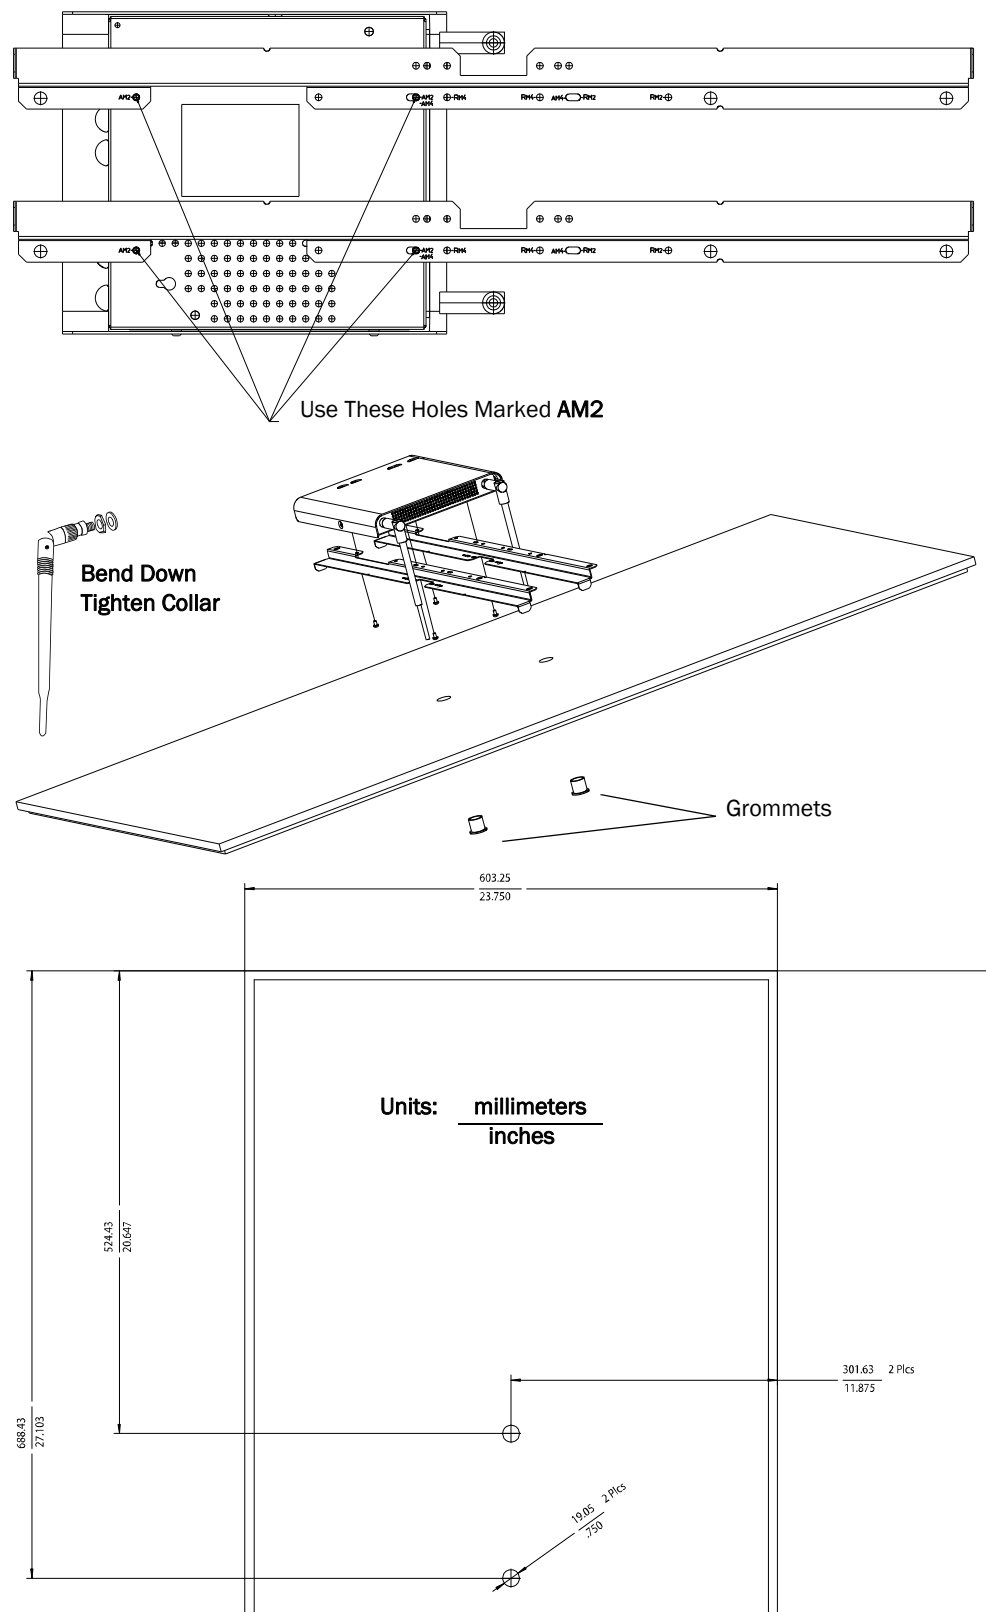
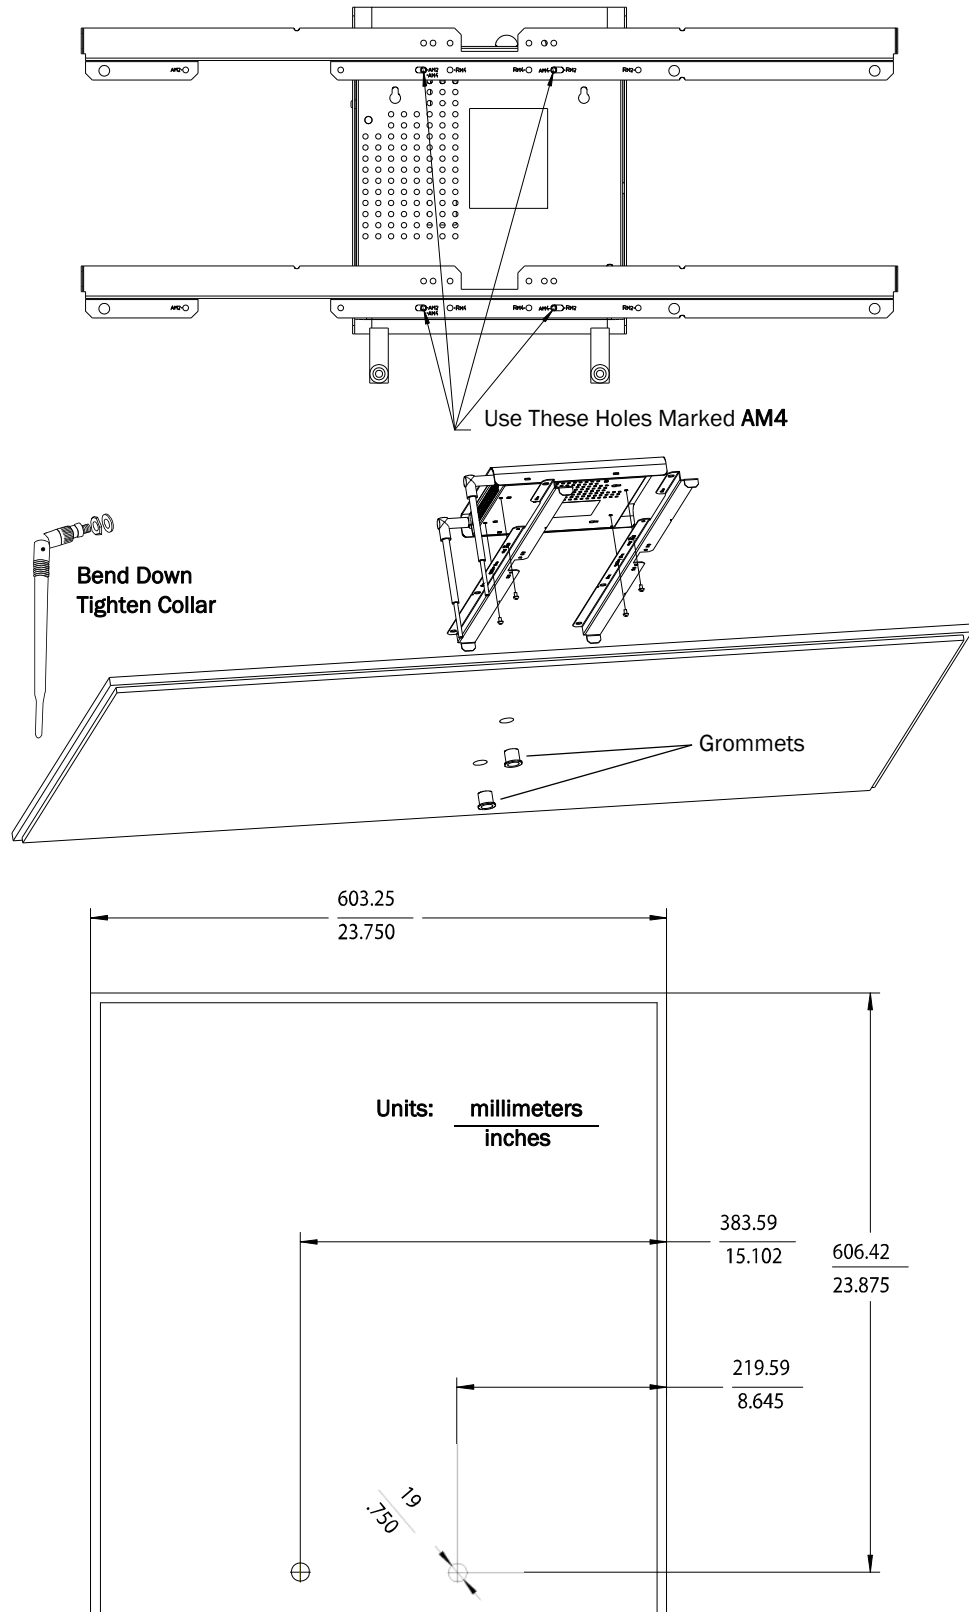

Figure 2-4: Possible Above the Ceiling Core AP Mounting Position
Figure 2-5: Alternative Above the Ceiling Core AP Mounting Position
The Core AP chassis can be rotated 90 degrees to the mounting rails. Choose the best placement of the Core AP to facilitate where the antennas will go through the ceiling tile. Note that there are additional holes in the mounting rails to allow for tethering to other permanent structures where local building codes require this type of installation. Refer to Figure 2-4 or Figure 2-5 for the dimensions used to locate the antenna holes in the tile.
6. Secure the mounting rails to the AP. Insert the four (4) M3 x 0.5 (8 mm LG) screws into the Core AP mounting rail holes, and into the mating holes in the back of the Core AP as shown in Figure 2-4 or Figure 2-5. Torque-tighten each shoulder screw to 8-inch lbs.